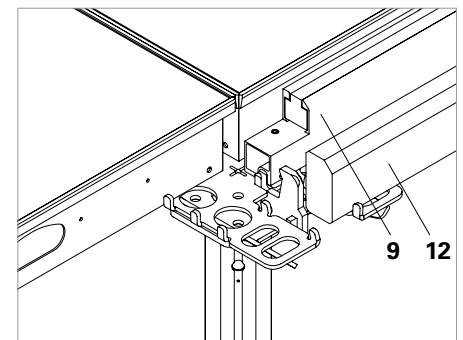

Fig. A5.13
- Edge Beam SRT-2 (9) and Filler Timber SPH (12) or timber provided by the contractor with $b = 3.8 - 8$ cm and $h = 9.8$ cm. (Fig. A5.13)